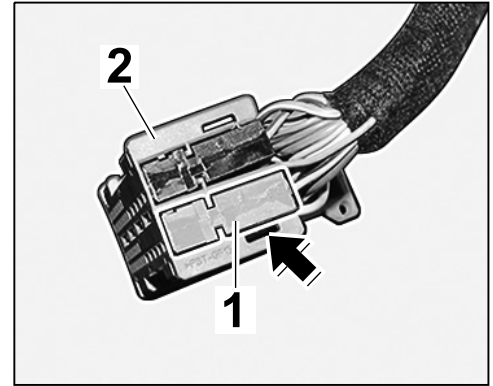

Figure 20
- 2.3.5 Press down the locking mechanism ⇒ *Figure 20 -arrow-* and slide the grey plug socket ⇒ *Figure 20-1-* out of the plug carrier ⇒ *Figure 20-2-*.